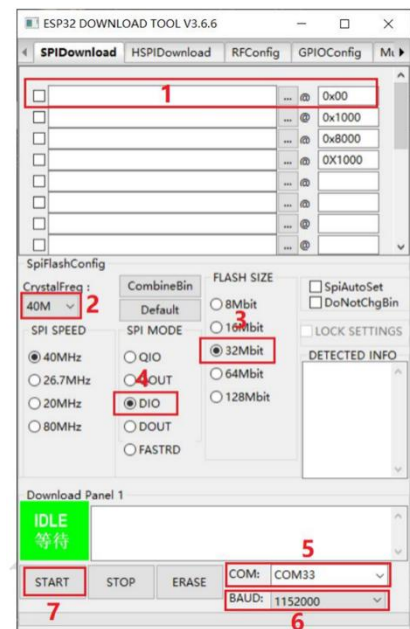

Fig.4
2. As shown in Fig.4: Select the firmware path at mark 1, and then fill in the burning address, usually 0X00. Note that this checkbox must be checked; Set the crystal frequency to be 40MHz at mark 2; Select 32Mbit for Flash size at mark 3; Select DIO for SPI MODE at mark 4; Select the COM port number recognized by the computer at mark 5. Select the baud rate at mark 6 (the higher the value is, the faster the firmware will be downloaded. Max. 1152000bps).